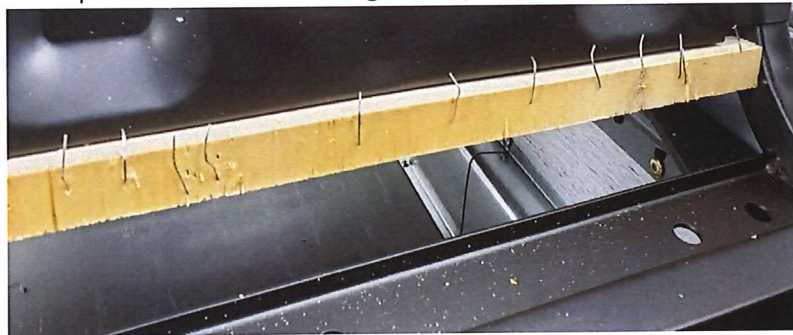

Figure 3: Staples bent over wood piece using pliers
8. Using pliers, bend all staples over as shown in **Figure 3** (It is preferable to remove staples)